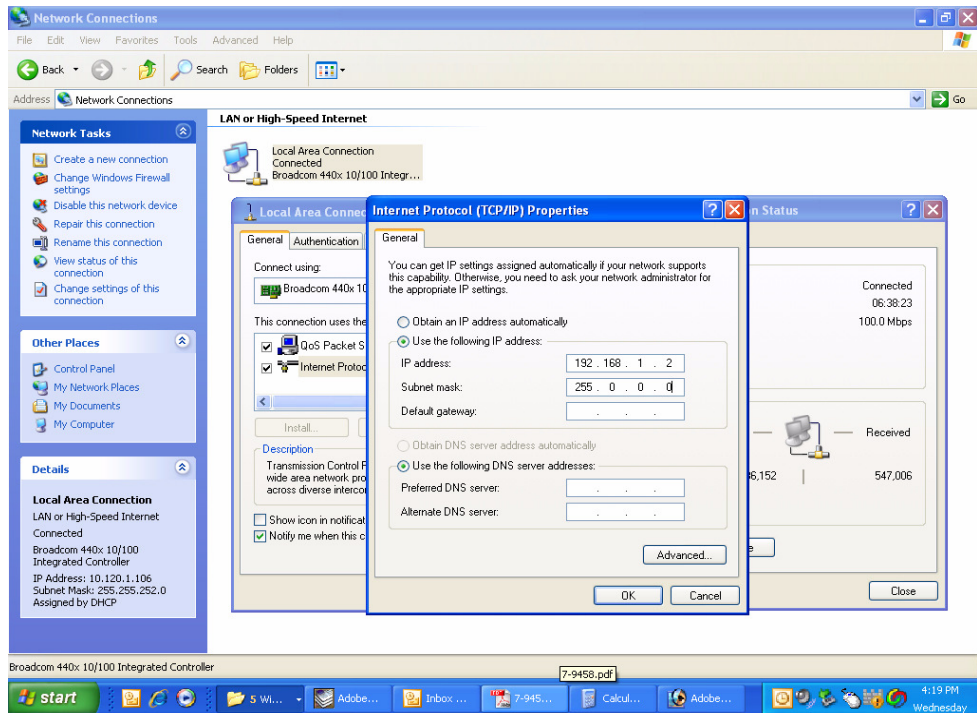

Figure B7: Enter the new IP Address and Subnet mask Values.
- 8) Enter the new IP address and subnet mask values as shown in **Figure B7**. To interface your computer to the signal booster use an IP address of "192.168.1.2" and a subnet mask of "255.255.255.0".